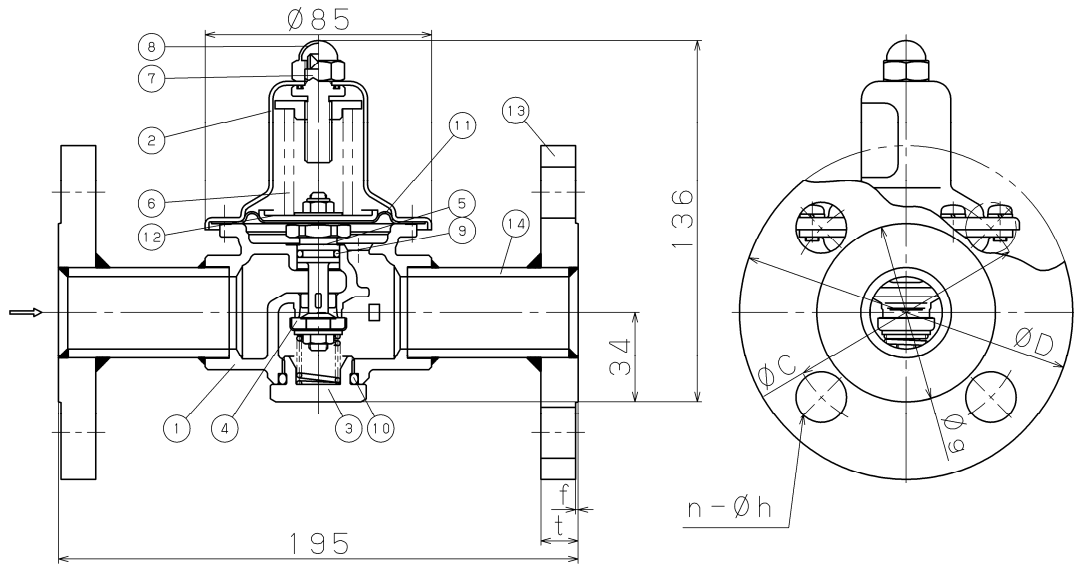

fig. 5
3.3 GD-43-20 Type, GD-43N-20 Type (Refer to fig. 5, table 5, and table 6.)